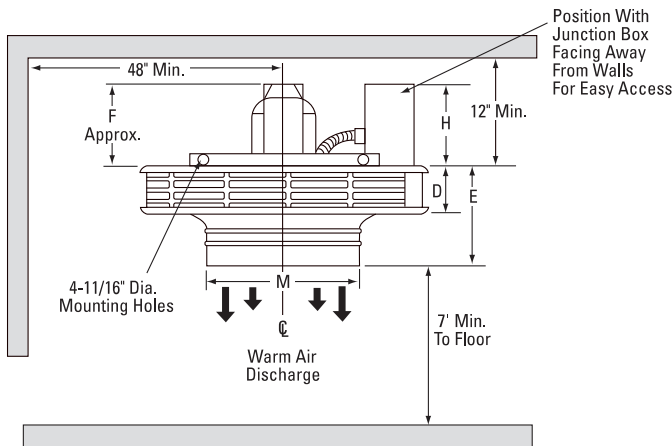

Figure 1
2. It is important that 12” minimum dimension shown in Figure 1 be maintained to make it possible for a serviceman to remove the fan motor, if necessary, without moving the heater from its mounting.
3. The heater may be mounted to the ceiling by attaching rigid angle brackets, hangers, or chains to the four mounting holes on top of the heater case using four 5/8” bolts (by others). See Figures 1 and 2.